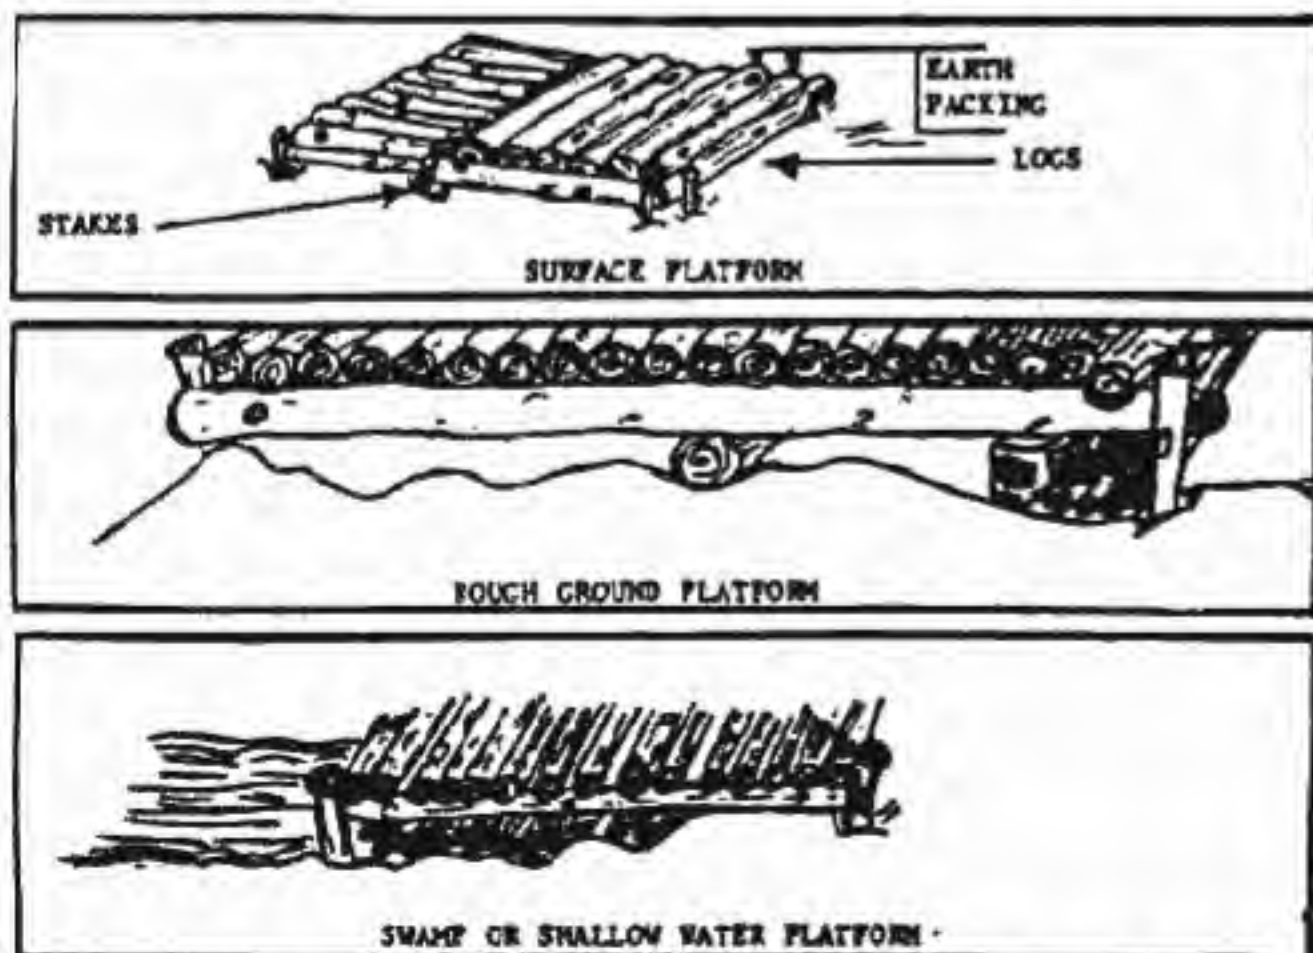

Figure 16. Examples of platform landing zones for rotary-wing aircraft.
- (1) The surface should be relatively level and free of obstructions such as rocks, logs, tall grass, ditches, and fences.
- (2) The maximum ground slope permitted is 15 percent.
- (3) The ground must be firm enough to support the aircraft.
- (4) Heavy dust or loose snow conditions interfere with the vision of the pilot just before touchdown. This effect can be reduced by clearing, wetting down, or using improvised mats.
- (5) Landing pads may be prepared on swamp or marsh areas by building platforms of locally available materials (Figure 16). Such LZ's are normally used for daylight operations only. The size of the clearing for this type of LZ is the same as b above, with the following additional requirements for the platform: